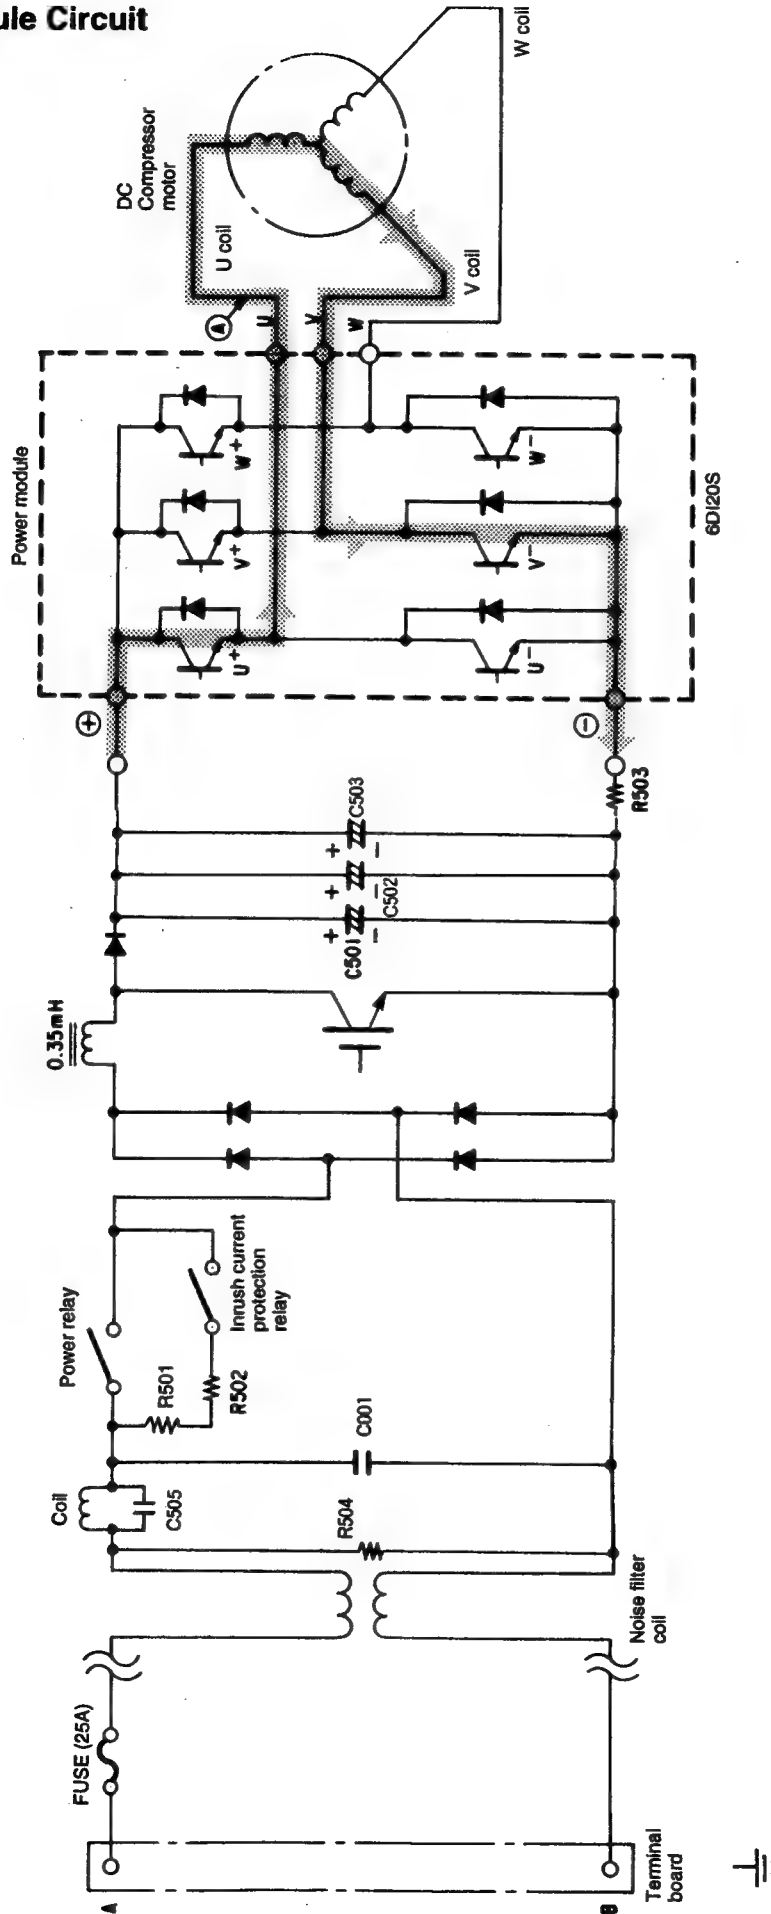

Fig. 3-1 Power module circuit (U+ is ON, V- is ON)
- Fig. 3-1 shows the power module and its peripheral circuits. The three transistors on the positive  $\oplus$  side are called the upper arm, and the three transistors on the negative  $\ominus$  side are called the lower arm.